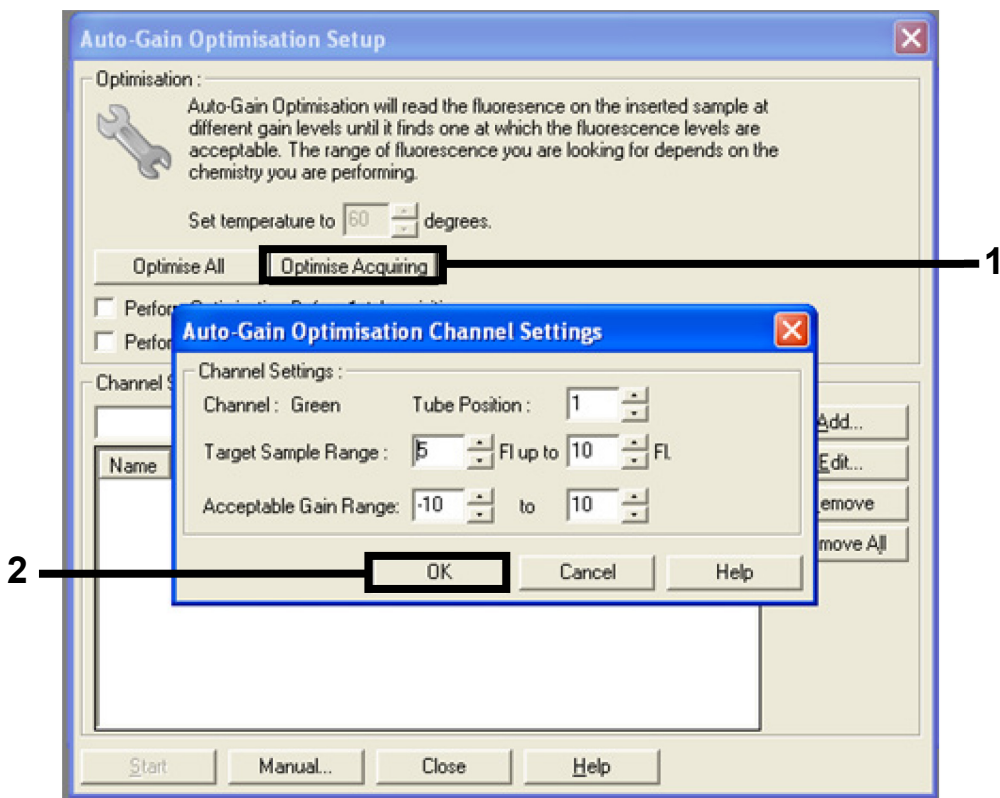

Figure 30. Auto-gain optimization for the Green channel (1 = "Optimize Acquiring" button; 2 = "OK" button).
13. Click the "Optimize Acquiring" button. Channel settings are displayed for each channel. Accept these default values by clicking "OK" for both channels (Figure 30).